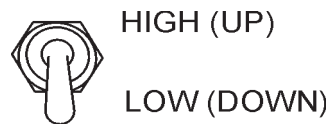

**Figure 72. Emergency Stop Button**
1. **PUSH** inward the emergency stop button located on the **engine operating panel** (Figure 72) to turn off the generator in the event of an emergency. This button is located on either Engine Operating Panel.